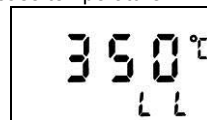

Fig 15
- 3.3. When "CALI" status display "L" or "LL" (see Fig 15.),it means "Real Temp." has calibrated and decrease temperature.